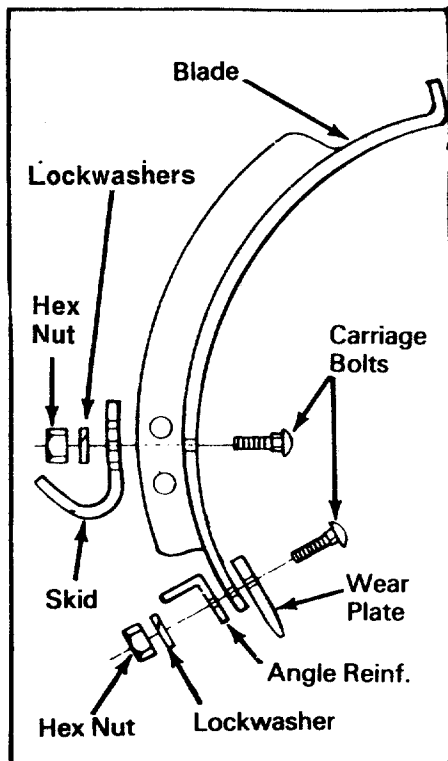

FIGURE 1
1. Place the Wear Plate on the front of the Blade and Angle Reinforcing behind the Blade and assemble with nine Carriage Bolts 3/8-16 x 1-1/4. Lockwashers and Hex Nut 3/8 Thread. See figure 1.